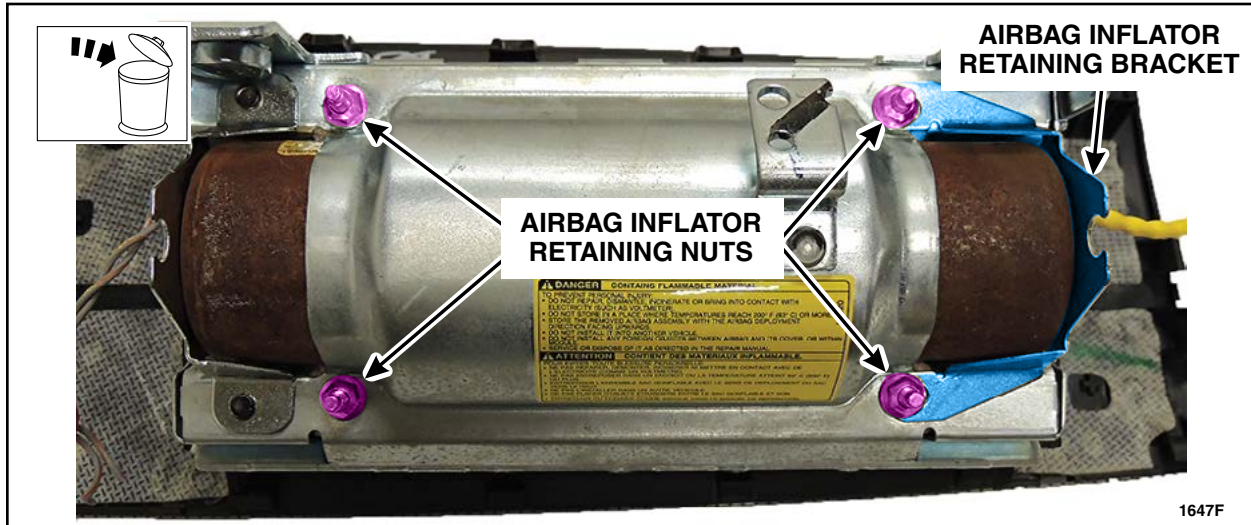

FIGURE 10
5. Remove and discard the four passenger airbag inflator retaining bracket nuts and the retaining bracket. See Figure 10.